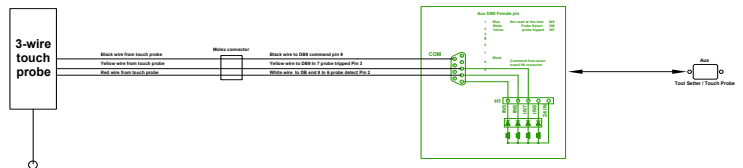

FIGURE 3—The complete schematic file can be found here
3. You connect the three wires from the touch sensor to the 9400 controller box using the DB9 connector that goes into the Aux Tool Setter / Touch Probe DB9 (see Figure 3).